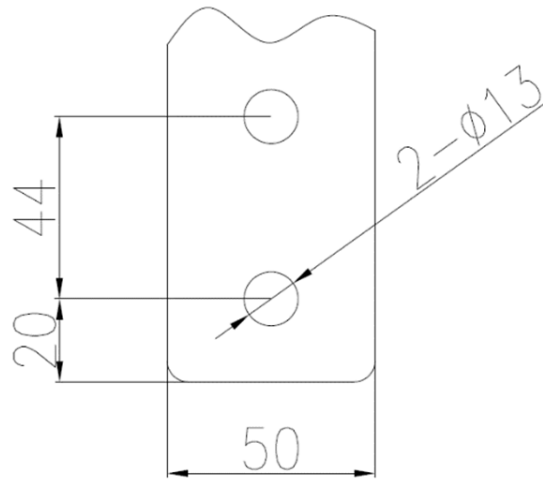

Fig. 3-8 Diameter of Copper Bar for DC Wiring (mm)
- For DC input, it is recommended that each input copper bar be connected with up to two cables. The size of the DC wiring copper bar is shown in Fig. 3-8, and the cable diameter recommendations are shown in table 3-4 below